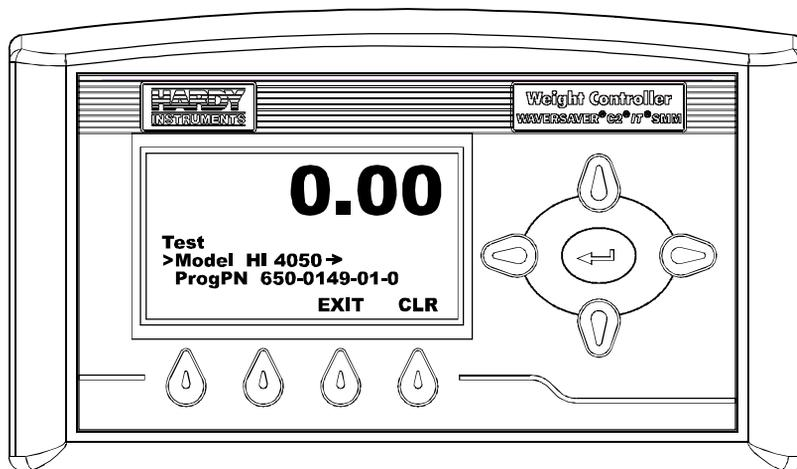

FIG. 391 TEST/VIEWING MODEL NUMBER
- Step 8. To view the Model Number, press the down arrow button until the cursor is in front of Model. (See Fig. 391)